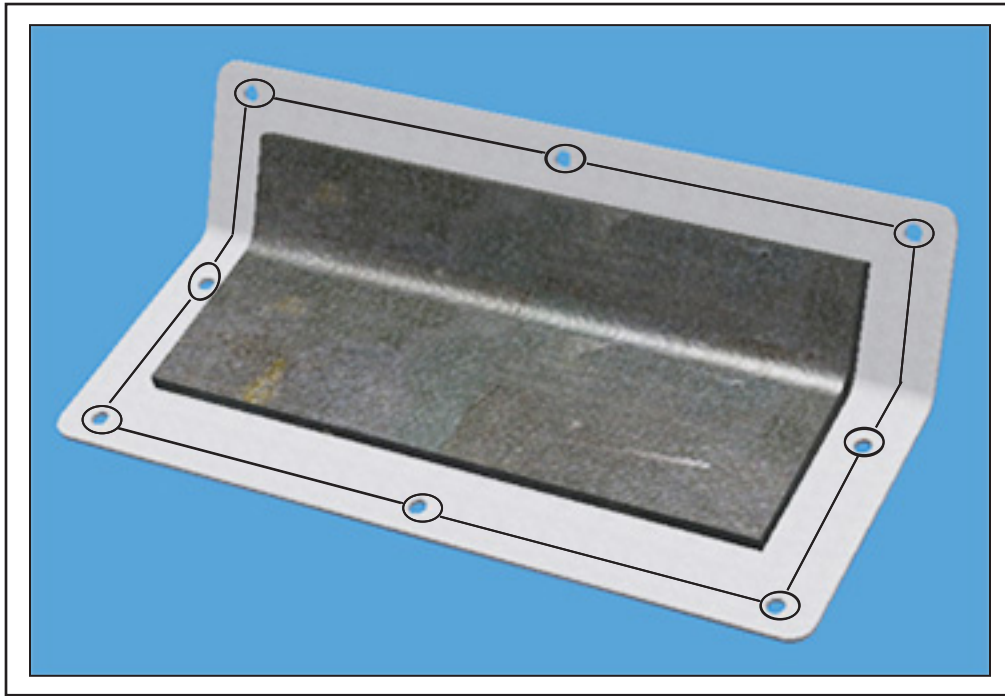

Figure 7 - N93775 Plate with a Bead of N24232-01 SikaFlex
- 1.10. Apply a 5/64 in. (2 mm) bead of N24232-01 white Sikaflex 252 around and between each hole of the N93775 plate. See Figure 7.